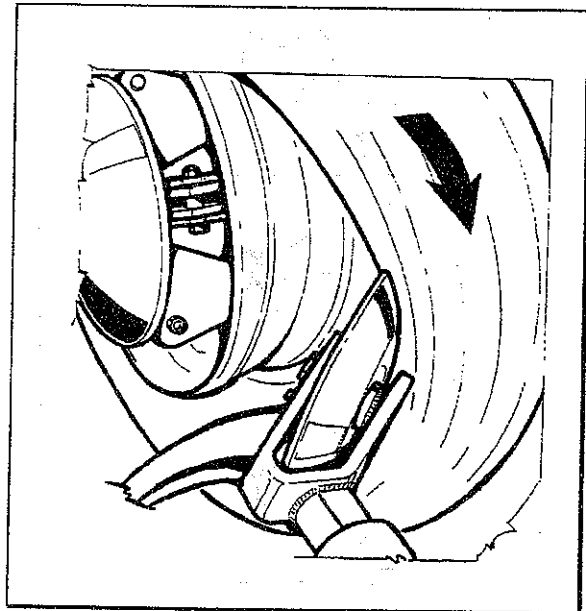

Fig.22
7. Continue rotating the chuck, moving the chuck arm inwards until the beads are demounted from the rim (Fig.22 and Fig.23)